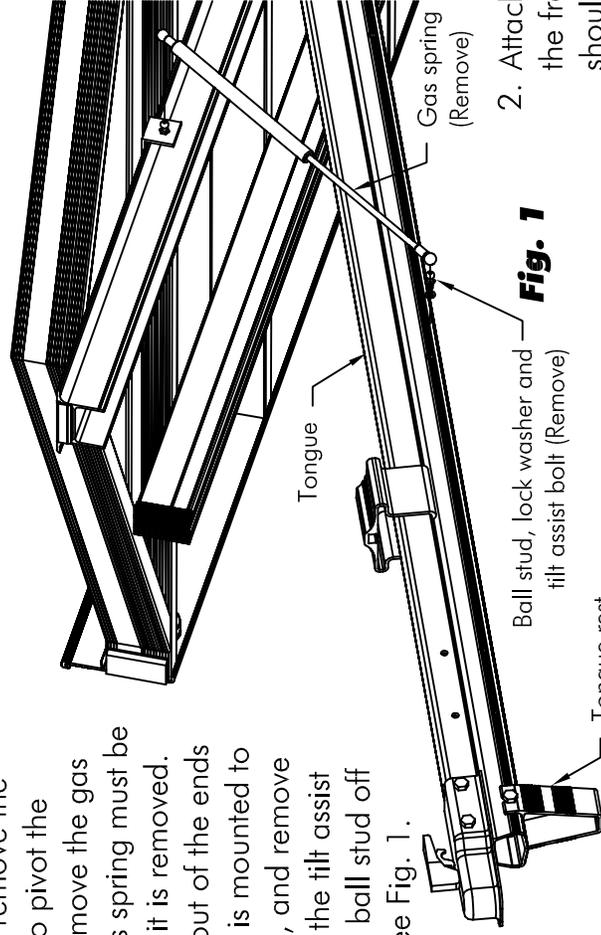
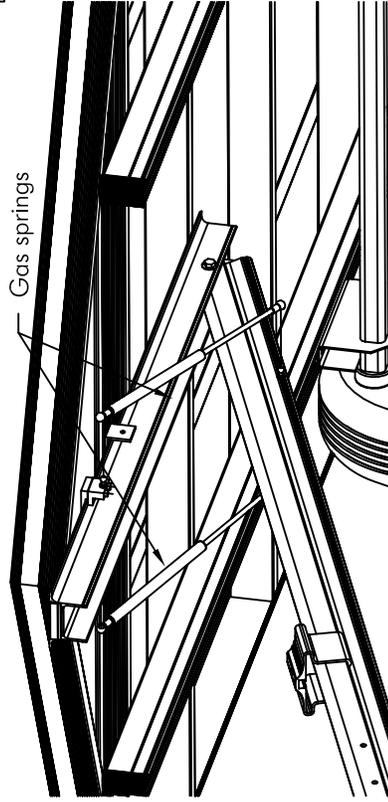
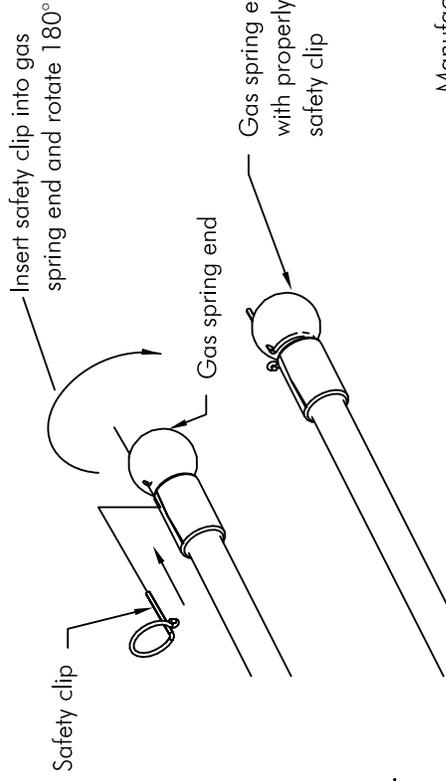

Fig. 1
Fig. 5
Fig. 6
1. Tilt the front of the trailer bed up, with the tongue on the ground. It may be necessary to remove the tongue rest in order to pivot the tongue enough to remove the gas spring. Note: The gas spring must be fully extended before it is removed. Take the safety clips out of the ends of the gas spring that is mounted to the trailer (see Fig. 6), and remove the gas spring. Take the tilt assist bolt, lock washer and ball stud off the trailer tongue. See Fig. 1.
5. Attach one gas spring to each side of the trailer tongue. See Fig. 5. Secure the gas springs to the ball studs by inserting safety clips to both ends of the gas springs as shown in Fig. 6. NOTE: Trailers without a rampshield only require one gas spring.